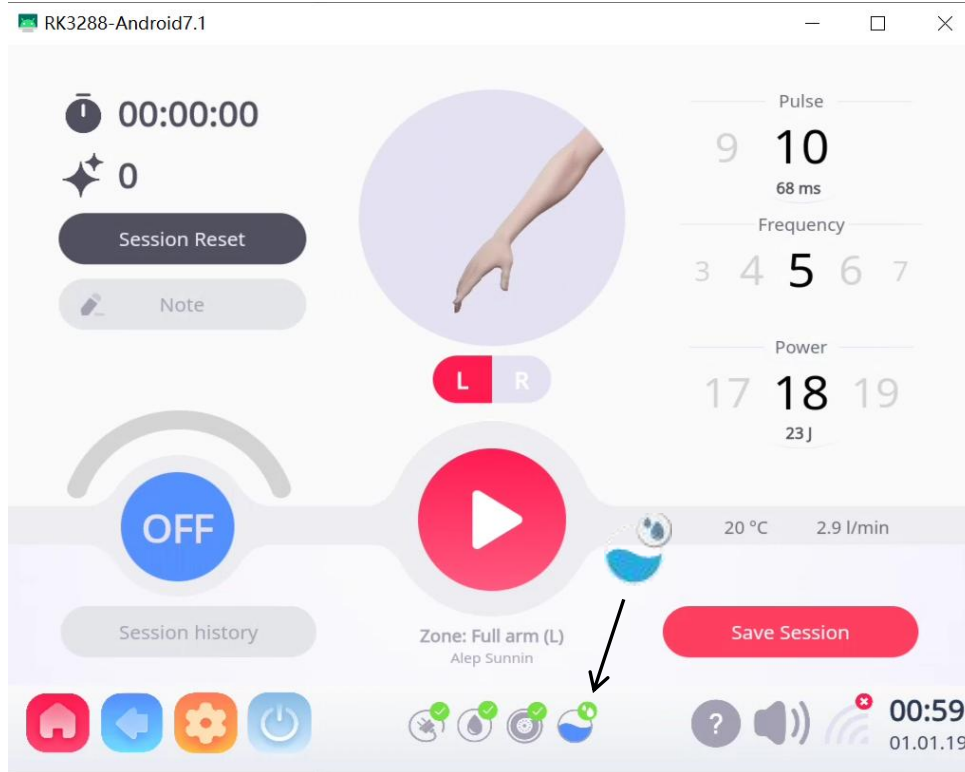

Figure 6.3-2
- If the following error message appears on the LCD screen (Figure 6.3-2)